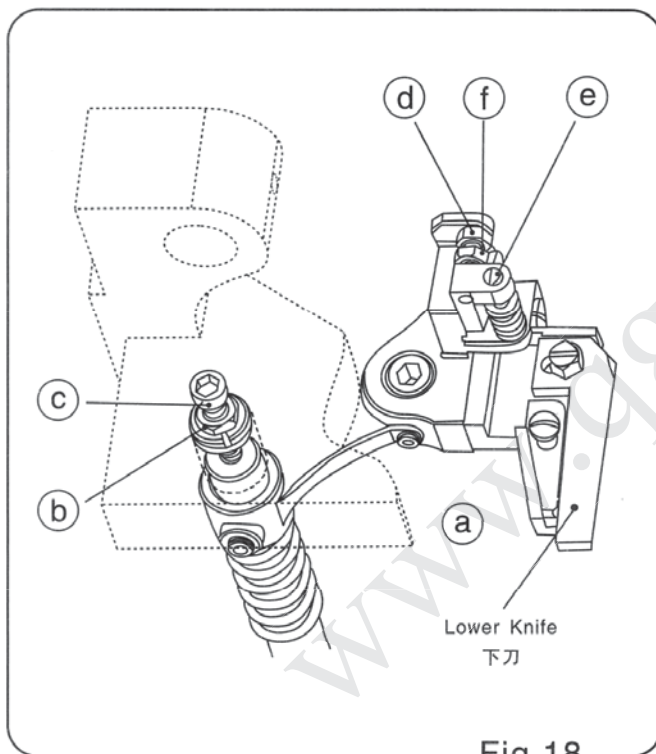

Fig.18
- When you do adjustment as requirement a), (Fig.18) loosen screw ③ and ④, rotary screw ⑤ to make lower blade position reaches requirement a then tighten.